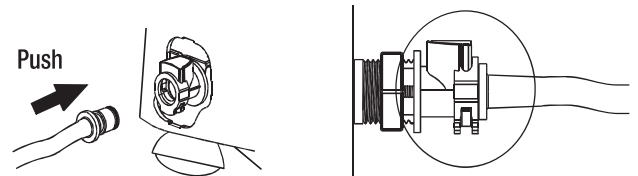

Figure 4
- To connect the drain hose to the unit, push drain hose connector B into the connector A. (Figure 4)